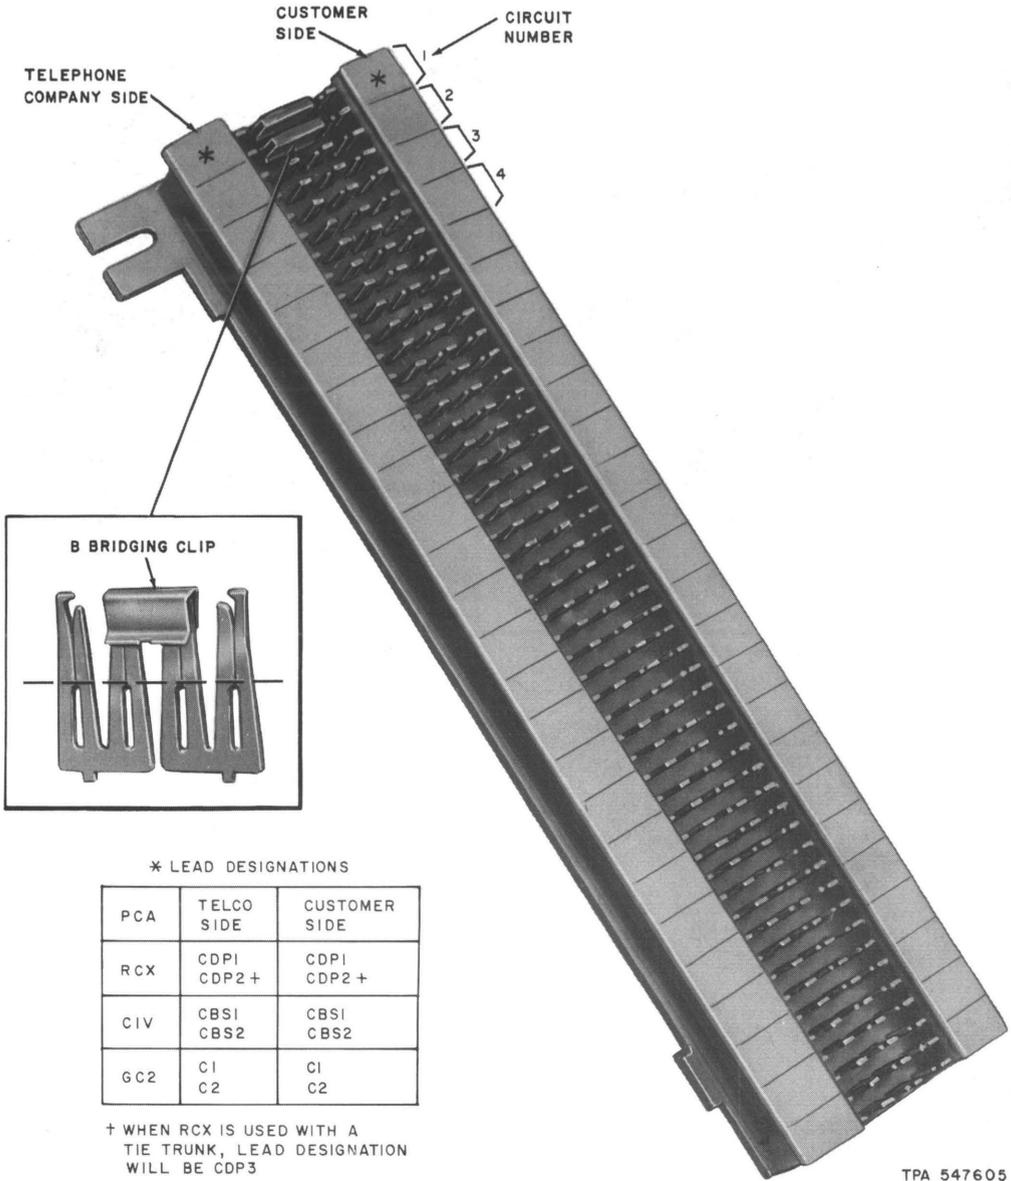

Fig. 2—66M1-50 Interface Connecting Block
- Change Fig. 2 and 11.
- Block, Connecting, 66M1-50 (Fig. 2)